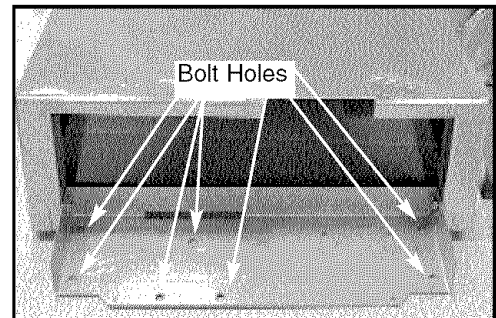

Fig. 13
1. Attach the shelf and Rotisserie Bracket to the left side of grill by lining up the 7 bolt holes on the side shelf bracket & rotis bracket to the side of the grill. (See Fig. 13)